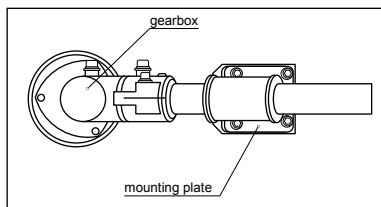

fig. 4
- Align the holes on the protective cover with the holes on the mounting plate (fig. 4).